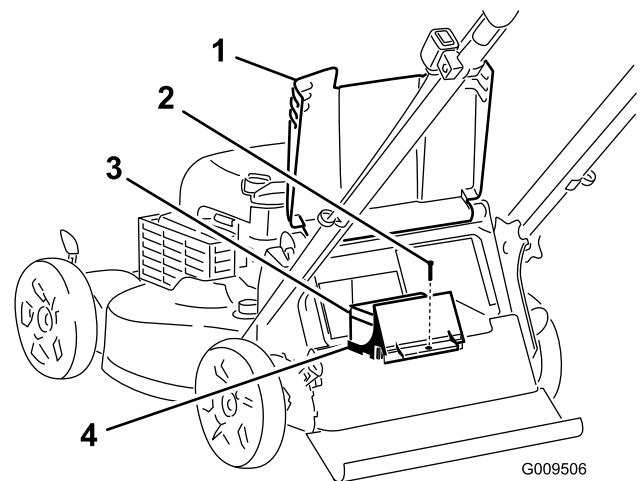

Figure 23
1. Raise the rear deflector and locate the battery compartment (Figure 23).